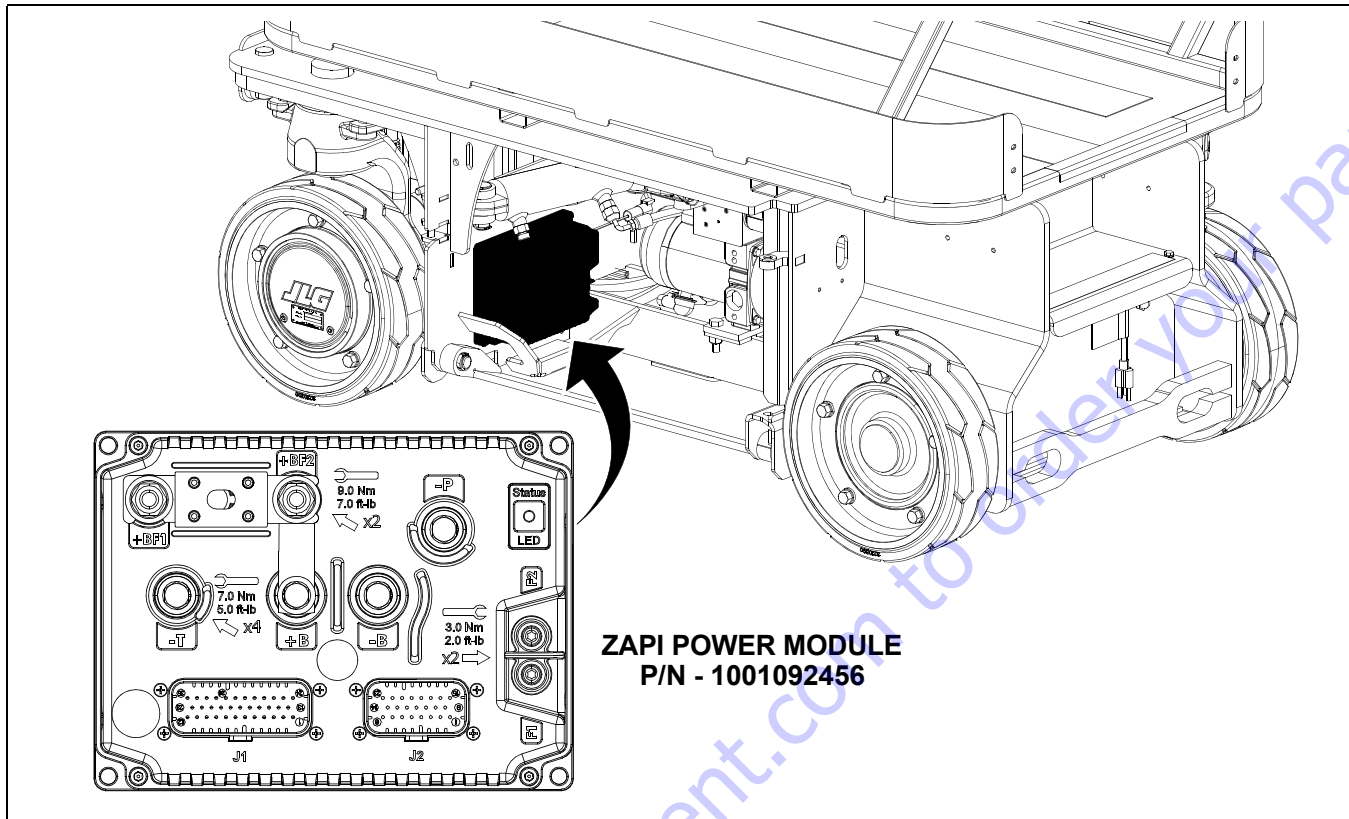

Figure 5-5. ZAPI Power Module Location
5. When installing the new power module, be sure that the terminals are oriented as shown in Figure 5-5.
The power module is located inside the left side access door as shown in Figure 5-5., ZAPI Power Module Location. Use the following instructions when replacing the power module.